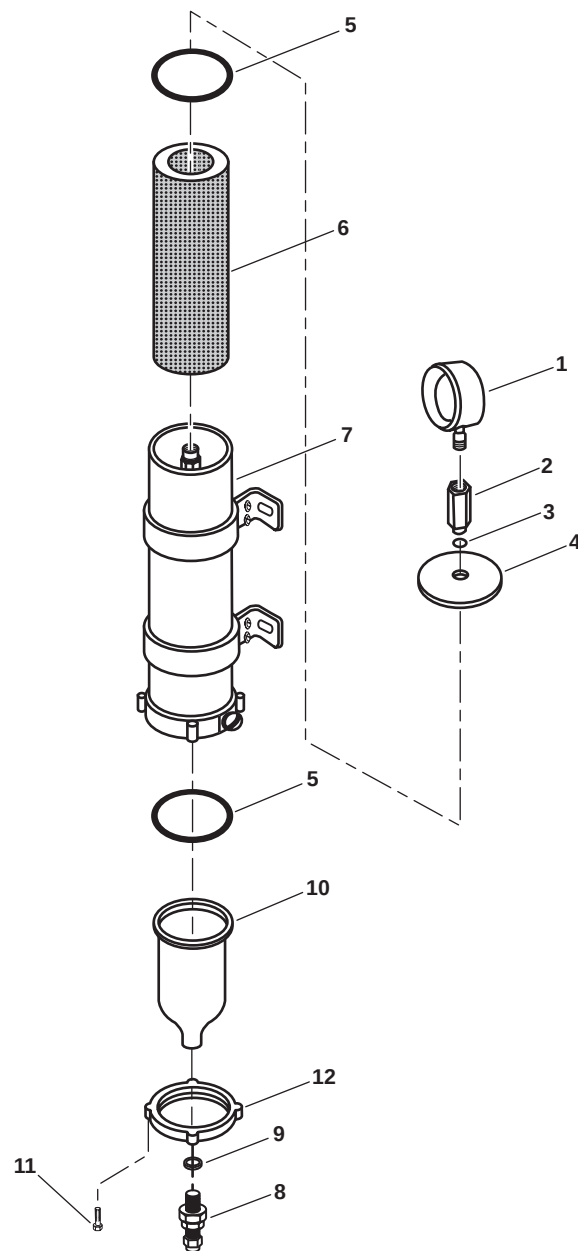

Figure 1. Fuel Oil Filter/Water Separator
2. Remove the pressure gauge (figure 1, item 1), brass fitting (figure 1, item 2), and the O-ring (figure 1, item 3) from the lid (figure 1, item 4). Discard the O-ring.
3. Remove the lid (figure 1, item 4) and the gasket (figure 1, item 5). Discard the gasket.
4. Grasp the molded handle on top of the filter element (figure 1, item 6) and remove the filter element from the cylinder (figure 1, item 7) by slowly twisting and pulling upward.
5. Remove the drain valve (figure 1, item 8) and O-ring (figure 1, item 9) from the bowl (figure 1, item 10). Discard the O-ring.
6. Remove the bowl retainer screws (figure 1, item 11) and the retaining ring (figure 1, item 12), bowl (figure 1, item 10), and gasket (figure 1, item 5) from the cylinder (figure 1, item 7). Discard the gasket.
1. Inspect the bowl (figure 1, item 10) and the lid (figure 1, item 4) for any obvious damage such as scratches, cracks, or deformations that could prevent proper mating of sealing surfaces that permit fuel leakage. Replace any defective cover or lid.
2. Inspect the bowl (figure 1, item 10) and the lid (figure 1, item 4) O-ring grooves for distortion, burrs or corrosion, which might damage O-rings during installation, operation, or could prevent proper mating of sealing surfaces that permit fuel leakage. Replace any defective parts.
1. Install a new gasket (figure 1, item 5) on the bowl (figure 1, item 10). Secure the bowl to the cylinder (figure 1, item 7) with the retaining ring (figure 1, item 12) and retainer screws (figure 1, item 11).
2. Replace the drain valve (figure 1, item 8) using a new O-ring (figure 1, item 9).
3. Install a new filter element (figure 1, item 6) into the cylinder (figure 1, item 7) using a twisting, downward motion.
5. Install the lid (figure 1, item 4) with a new gasket (figure 1, item 5) on the cylinder (figure 1, item 7).
6. Apply antiseizing tape to the male threads of the pressure gauge (figure 1, item 1) and brass fitting (figure 1, item 3).
7. Install the new O-ring (figure 1, item 3) in the lid (figure 1, item 4). Install the brass fitting (figure 1, item 2) in the lid the (figure 1, item 4).
8. Install the pressure gauge (figure 1, item 1) on the brass fitting (figure 1, item 2).